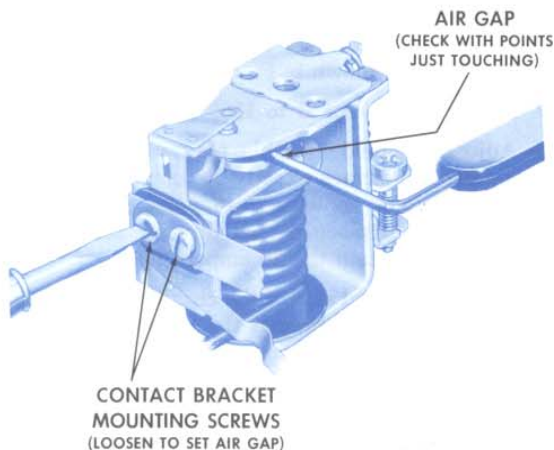

Figure 14—Current regulator air gap check and adjustment.
1. With contact points just touching, measure air gap between armature and winding core as shown in Figure 14.